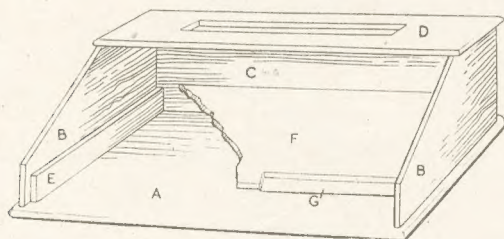
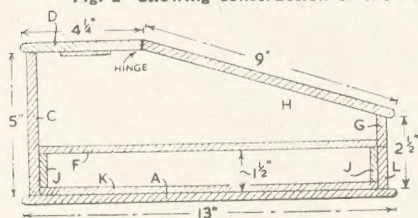

Fig. 2—Showing construction of the desk
Fig. 4—End elevation
A glance at Fig. 2 will show that the desk is glued and nailed or screwed to the base (A) which measures 18ins. by 13ins. by  $\frac{3}{8}$ in. It is not essential to have this in one piece. It can be made up of two or more pieces butted and glued together. The sides when screwed in place will strengthen them sufficiently.
(C) is glued between the sides and measures 16 $\frac{1}{2}$ ins. by 5ins. by  $\frac{3}{8}$ in. Piece (D) will be 18ins. by 4 $\frac{1}{2}$ ins. by  $\frac{3}{8}$ in. The back and side edges will be rounded and the front edge chamfered to take the lid as shown in Fig. 4. A piece about 8ins. by 1in. can be cut from the centre to form a depression for the pencils and pens.
A backing piece of  $\frac{1}{4}$ in. or  $\frac{1}{8}$ in. wood must be glued underneath. Two side rails to take the floor of the well are next glued to the sides (B), in the position shown in Fig. 2. These rails (E) measure 11 $\frac{1}{2}$ ins. by  $\frac{1}{2}$ in. The front rail (G) measures 16 $\frac{1}{2}$ ins. by  $\frac{1}{2}$ in. and must be chamfered as shown in Fig. 4.
The position of the hinge is shown in Fig. 4, and although outside flap hinges are easier to fix, it will look better if butt hinges are used. These should be recessed slightly into piece (D) and the lid to allow for the thickness of the hinge.